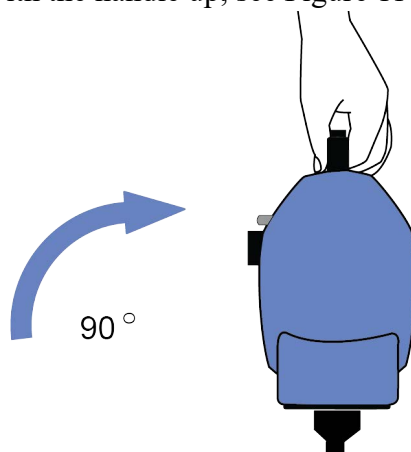

Figure 11-5 Turn head.
6. Turn the head with the handle up, see Figure 11-5.